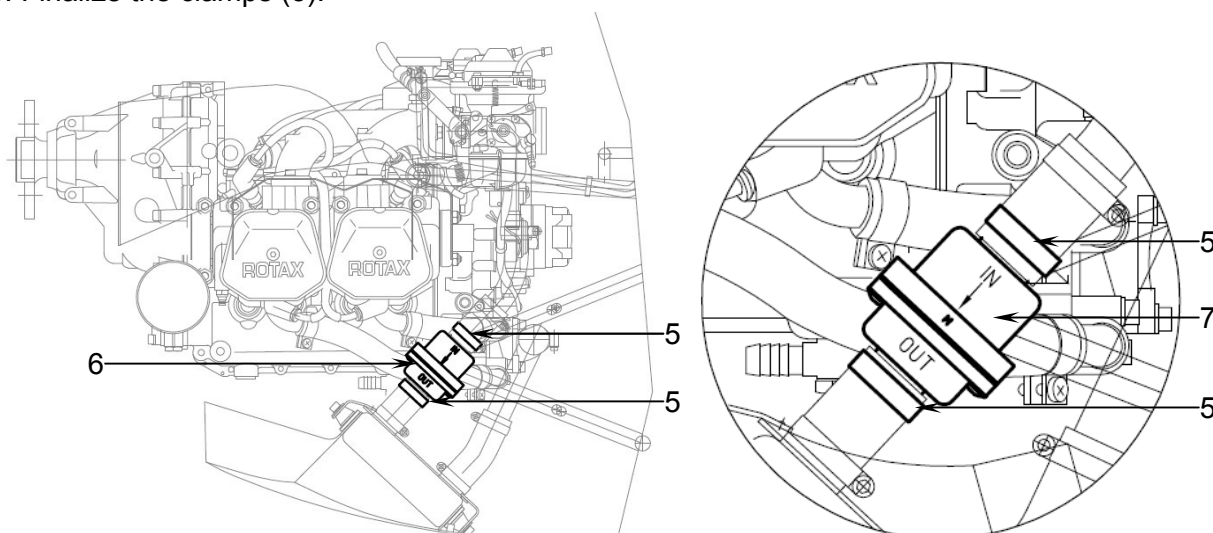

Figure 2
3. Water thermostat modification / replacement (Figure 2).